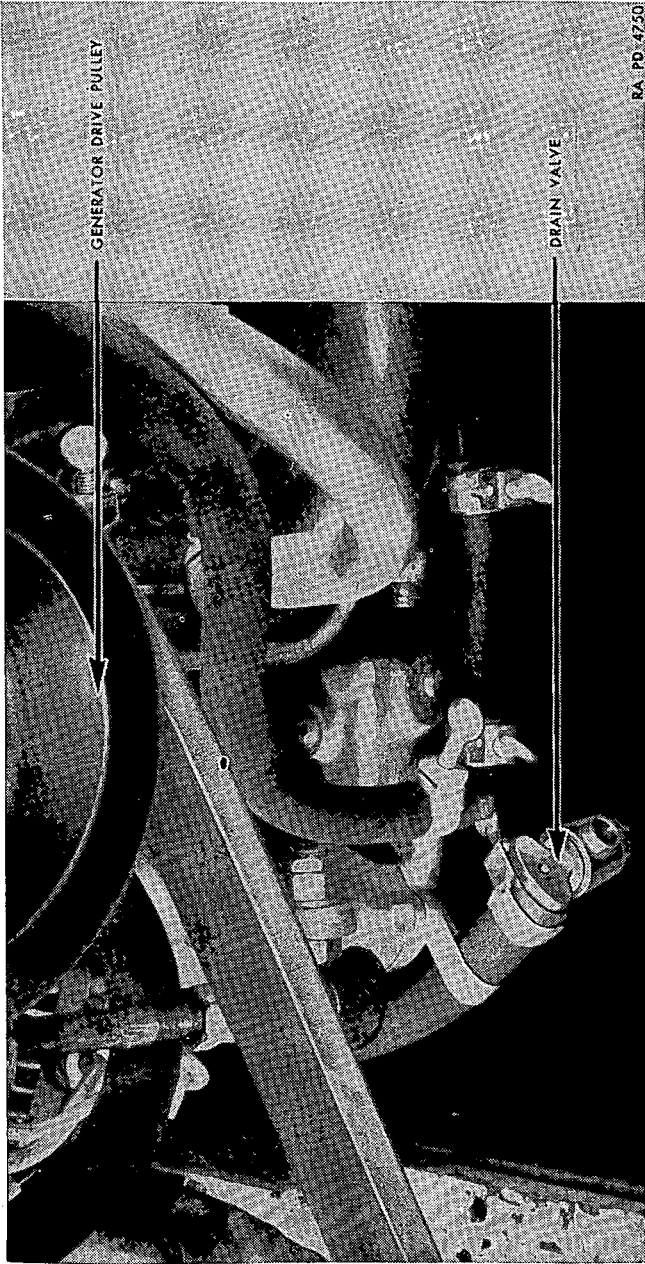

FIGURE 10.—Inlet manifold drain valve for Guberson T-1020, series 4.
(1) Normal oil pressure is 60 to 90 pounds.
(2) Normal oil temperature is 100° F. to 170° F.
b. If the drain cock on the inlet manifold is open, close it. If the cock is closed, open it and permit all of the oil in the inlet manifold to drain out before closing it (see fig. 10).
c. Important points to remember.—(1) Engine *must* be operated for at least 30 minutes when started following a shut-down on diluted oil.
(2) Engine *must* be shut-down *immediately* after dilution.
(3) Dilution time greater than 210 seconds *must not* be used.
b. If an unavoidable stop occurs during high speed operation, place the throttle lever on decompression, open drain cock (fig. 10), and turn the engine by hand through two or three revolutions before attempting to start the engine. This is to prevent damaging the engine due to an oversupply of oil between piston and cylinder head in cylinders five and six.